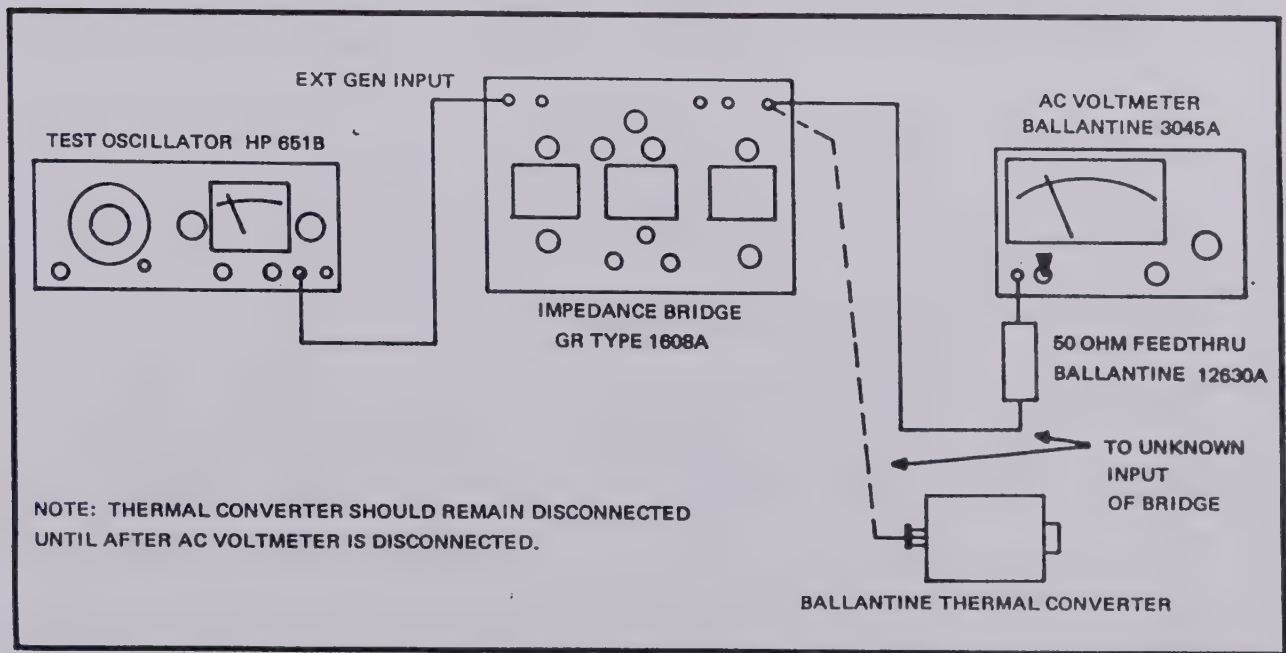

Figure 5-3. AC Calibration of Input Impedance
a. Connect equipment as illustrated in figure 5-3.
f. Tune impedance bridge for null indicated on NULL meter of bridge. Impedance readout should be $50 \Omega \pm 0.15 \Omega$. If this readout is not obtained, perform the calibration procedures given in paragraph 4-2, and carefully redress the component in the thermal converter as shown in figure 5-3 then repeat this procedure.